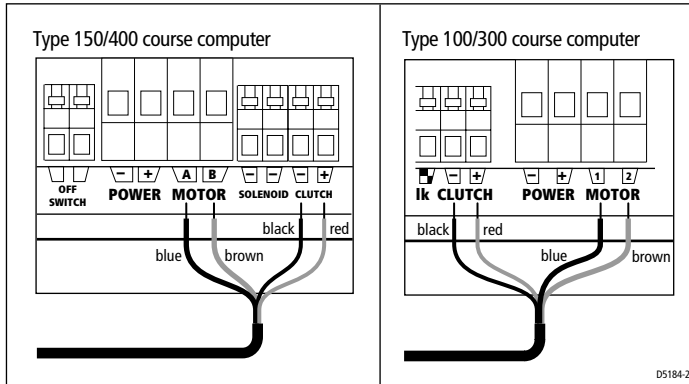

Figure 3: Connections at course computer
3. Connect the motor cables (thicker blue and brown cables) and the clutch cables (thinner red and black cables) to the connections on the course computer as shown in *Figure 3*.